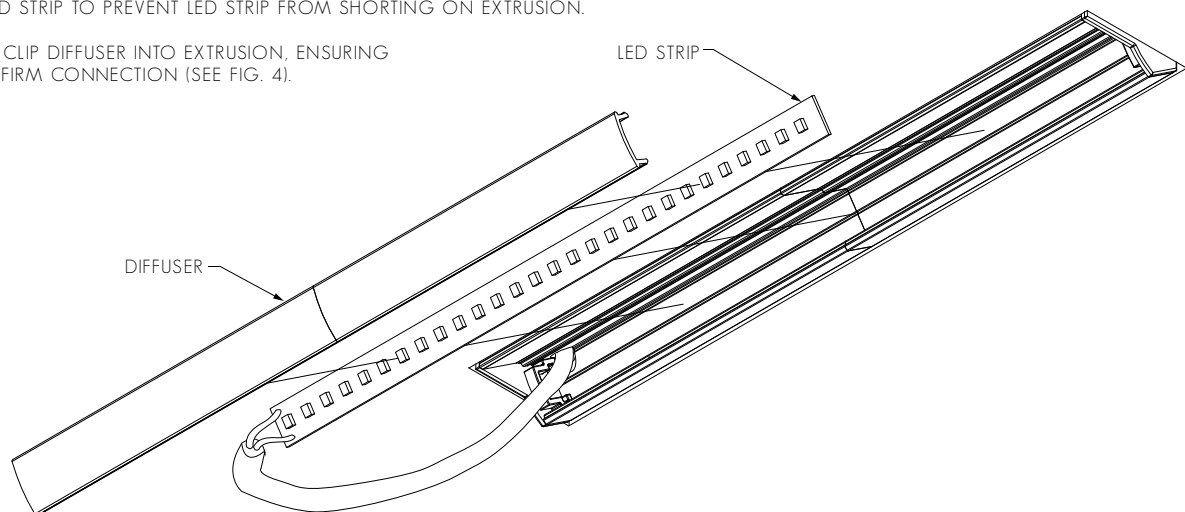

FIG. 4 - ENSURE DIFFUSER IS MOUNTED SECURELY
2. REMOVE BACKING FROM LED STRIP TO EXPOSE STICKY SURFACE. LAY LED STRIP INTO EXTRUSION. SEE FIG. 4. USE KAPTON TAPE AT EACH END OF THE LED STRIP TO PREVENT LED STRIP FROM SHORTING ON EXTRUSION.
3. CLIP DIFFUSER INTO EXTRUSION, ENSURING A FIRM CONNECTION (SEE FIG. 4).